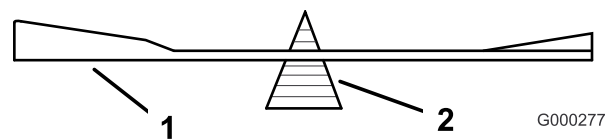
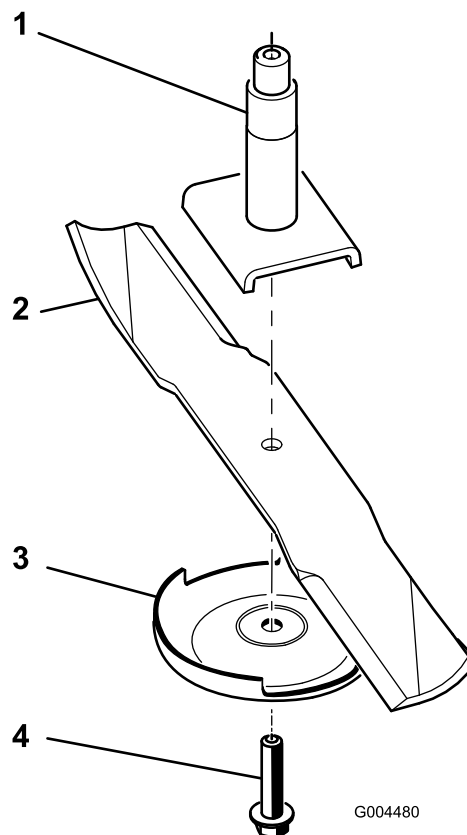

Figure 71
Figure 72
2. Remove the blade bolt, anti-scalp plate, and blade from the spindle shaft (Figure 72).
2. Check the balance of the blade by putting it on a blade balancer (Figure 71). If the blade stays in a horizontal position, the blade is balanced and can be used. If the blade is not balanced, file some metal off the end of the sail area only (Figure 72). Repeat this procedure until the blade is balanced.
1. Install the blade onto the spindle shaft (Figure 72).
2. Install the anti-scalp plate and blade bolt (Figure 72).